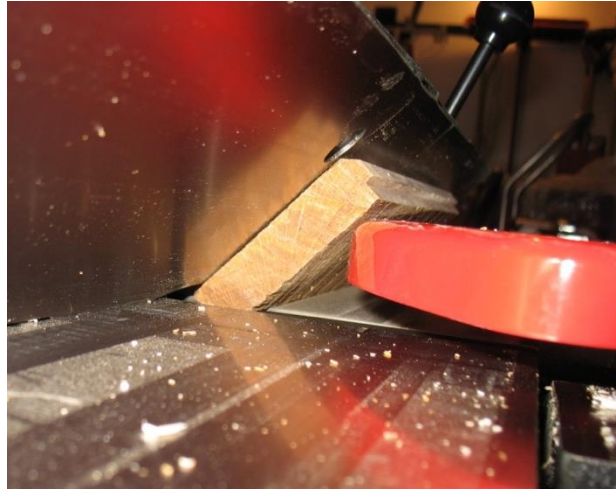

Figure 44: Beveling
5. The fence can be adjusted up to 45 degrees angled toward the infeed/outfeed tables (bed) or away from the infeed/outfeed tables (bed) for beveling. There is less chance of stock slippage when the fence is angled down, toward the tables (Fig. 44). Angling the fence toward the tables is also a safer method to bevel, when the application allows.